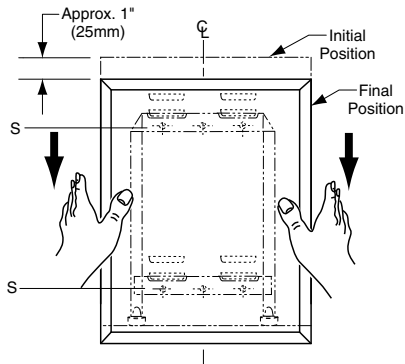

Figure: 4
**Snap Locking Design** — Locking devices automatically secure mirror to concealed wall hanger when it is lowered into final position (see figure 4). Locking devices may be unlocked by inserting two flat blade screwdrivers behind each side of mirror near the bottom or under the bottom of the mirror and pulling mirror bottom forward and then up.